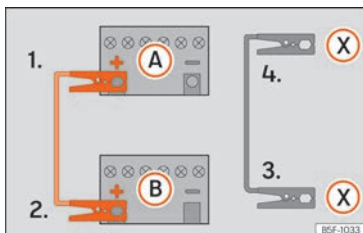

Fig. 44 Diagram of connections for vehicles with Start-Stop system.
- 4b. *In vehicles with a Start-stop system:* connect one end of the *black* jump lead (X) to a suitable ground terminal, to a solid piece of metal in the engine block, or to the engine block itself » » » Fig. 44.
5. Connect the other end of the *black* jump lead (X) to a solid metal component bolted to the engine block or to the engine block itself of the vehicle with the flat battery. Do not connect it to a point near the battery (A).